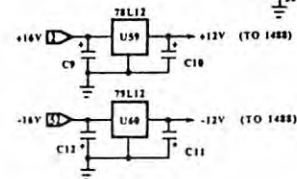

FIGURE 1
NORMALLY CLOSED CONNECTION (AC) TO CONNECT DIRECTLY TO TERMINAL (DTE), FIGURE 1.